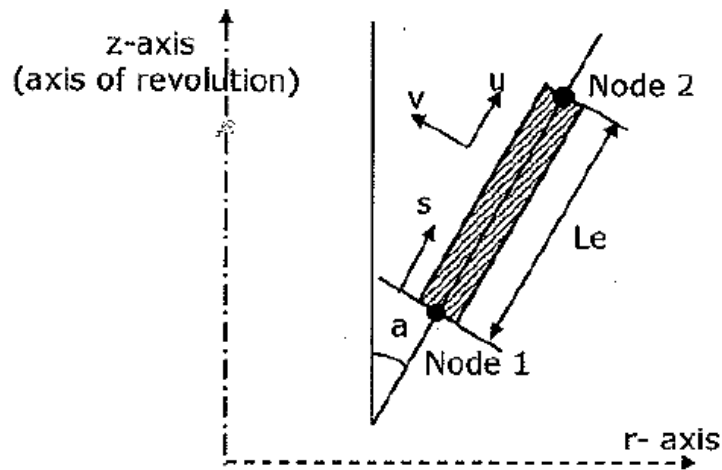

Figure Q4
- Q4. Figure Q4 shows a typical thin-shell axisymmetric conical element. This type of element can be used for the analysis of axisymmetric internally pressurised thin conical shells. The deformation of the element is axisymmetric and dependent on the local coordinate s along the element. The nodal variables for this element are the meridional displacement u , the normal displacement v , and the slope $\theta (= dv/ds)$. The meridional and normal displacements of the element can be approximated by the following polynomial expression: